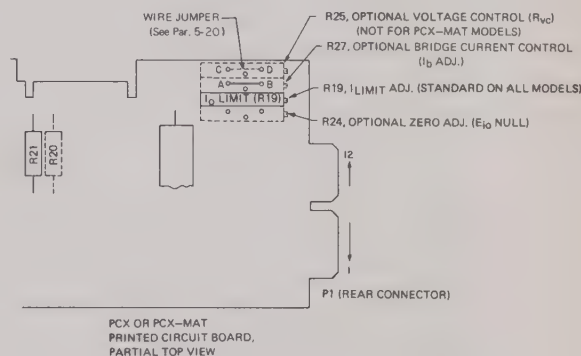

FIG. 5-2 LOCATION OF MOUNTING SPACES FOR OPTIONAL CONTROLS
5-7 Models ordered with these controls factory installed bear the suffixes "R" (for R27), "E" (for R24), or a four place suffix "8000" (for R25). The installation instructions may be disregarded for these models. DISCONNECT POWER SUPPLY FROM THE AC POWER LINE. Before installation, remove the printed circuit board as described in paragraph 5-3. Locate pre-designated spaces for the controls by referring to FIG. 5-2. Proceed as directed in the applicable paragraphs below.
- Insert 1 K ohm potentiometer (see parts list for order number) in the space outlined on FIG. 5-2. Solder in place and turn R27 to its approximate midposition. Reinstall the circuit board, and return power supply to the plug-in adapter.
- Install a precision resistor (R_{VC}) across barrier strip terminals (4) and (9) and connect a precision voltmeter across the output terminals (5) and (6).^{*} Since the bridge current (I_b) is a nominal 1 mA, and the control ratio is 1 K ohm/V, the output voltage E₀ will be approximately equal to E₀=I_bR_{VC}. (i.e., for each 1000 ohms of voltage control resistance (R_{VC}) one volt of output voltage will appear across the output terminals).
- b) Locate appropriate space on the printed circuit board (Refer to FIG. 5-2) and solder the selected rheostat in place. The value of the rheostat will depend on the desired output voltage, i.e. for each 1000 ohm of Resistance, 1 volt of output will be produced.
- b) Locate R19 (Refer to FIG. 5-2) Slowly turn the control counter clockwise until a sharp increase in output ripple is observed, indicating the operation of the power supply in the current limit mode. Set control slightly clockwise again until the output ripple appears just normal again.
- Locate prepared space on PCB-1 (A1) by referring to FIG. 5-2.